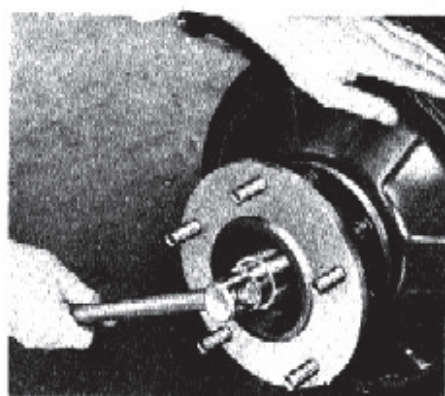

Fig. 48—Adjusting Front Wheel Bearings
2. Using an 8" wrench (never larger) and applying a steady force with one hand, pull the adjusting nut up tight while rotating the drum to make sure all parts are correctly seated (fig. 48).